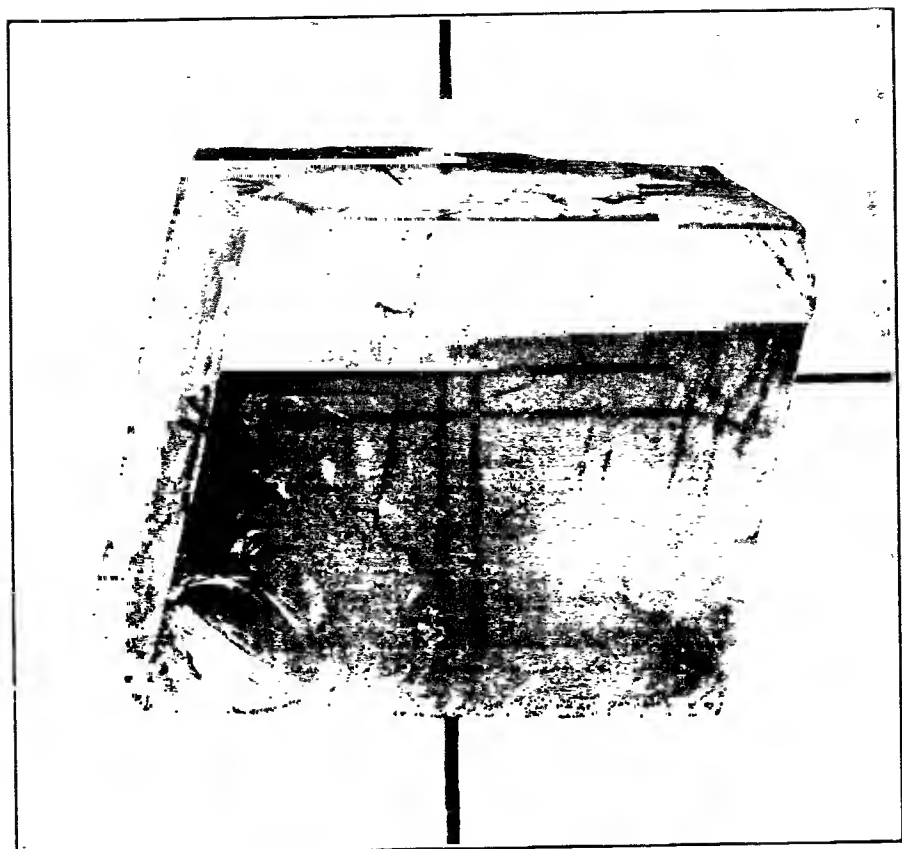

Figure 143. Double Refraction of Light by Iceland Spar. Museum of Brooklyn Institute
**Double refraction.** It has been found that all transparent minerals except those which crystallize in the isometric system or those which are amorphous, break up a ray of light passing through them into two rays, so that an object seen through them appears double. In most minerals, however, the divergence of these two rays is so slight as not to be perceptible to the unaided eye. In transparent calcite, often called "Island spar," the rays are so widely separated as to make this property, known as *double refraction*, very striking, as shown in figure 143. Do not fail to get a specimen of Island spar and prove for yourself that you can see two images of any object through it where only one object exists. One of the notable specimens in the British Museum in London is a huge crystal of transparent calcite, Island spar, about 27 by 24 by